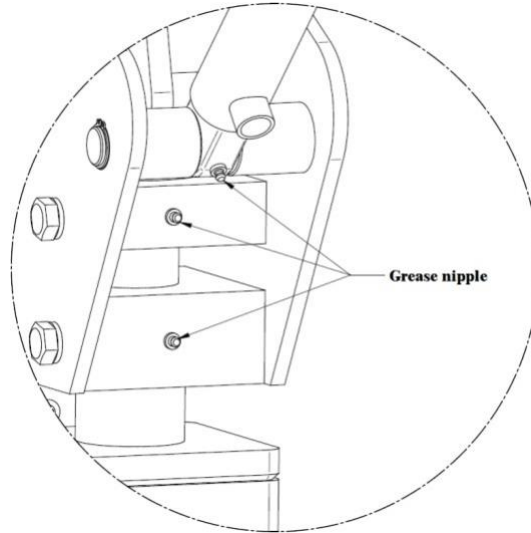

Fig. 2 Grease nipple locations
- Apply grease into grease nipples (Fig. 2) at least every 8 weeks (more often if the Hydraulic MIG Wire Feeder Boom is used heavily).